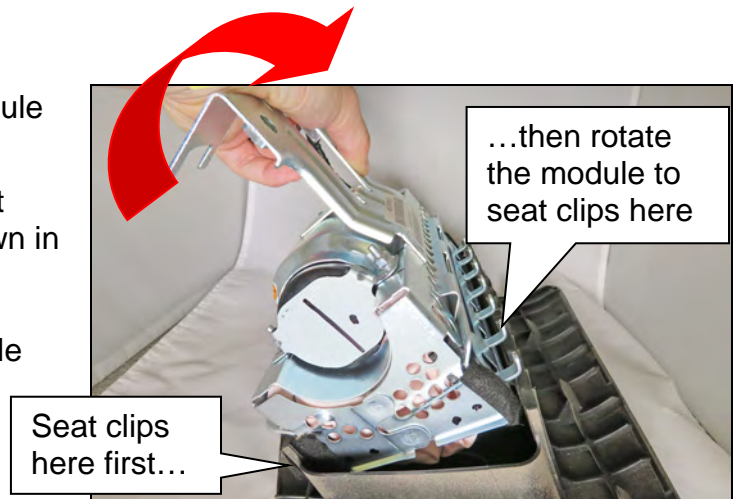

Figure 19
- Seat the module clips into the left side of the module cover as shown in Figure 19.